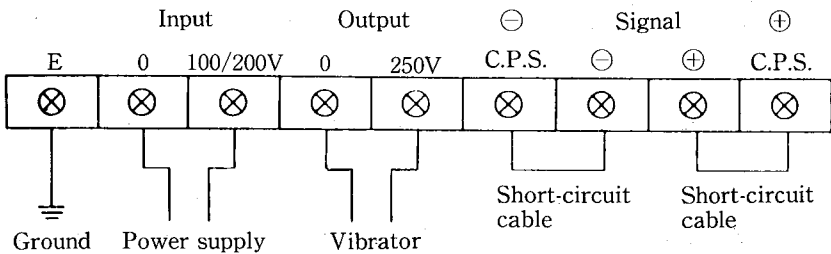

Figure 6.2 ON/OFF control by using a power supply switch
The PFC-025A, PFC-110A, and PFC-170A controllers can accommodate either 100V or 200V power supplies without modification. Connect power supply cables to the input terminals of each controller. (See Figures. 6.2 thru 6.4 for sample connections.) The controllers use different signal terminals depending on the kind of external signal. Figures 6.2 thru 6.4 show typical connections. Be sure not to make or break a circuit on the input or output sides.
- (1) Figure 6.2 shows sample connections when an external signal is not used.